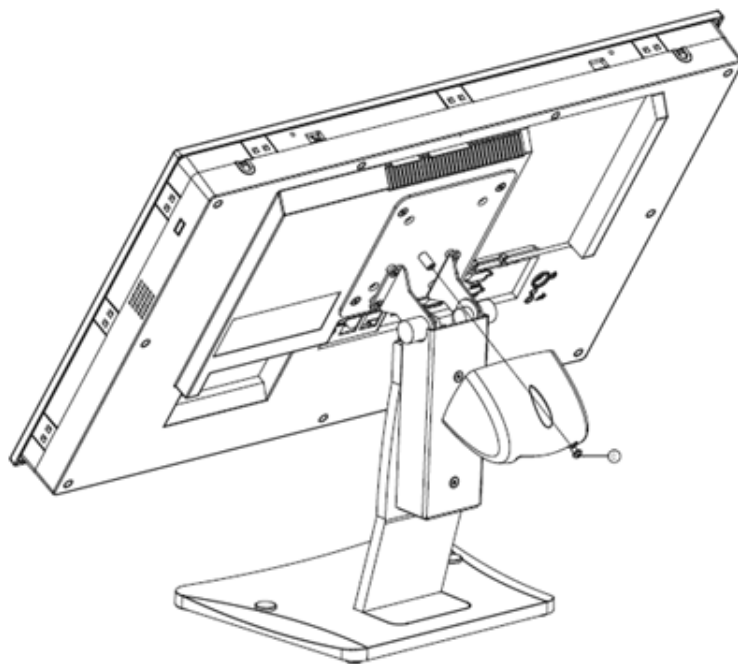

Figure 2.37 Securing the stand mount hinge cover
4. Use one M4 x 5L screw to secure the stand mount hinge cover (Figure 2.37).